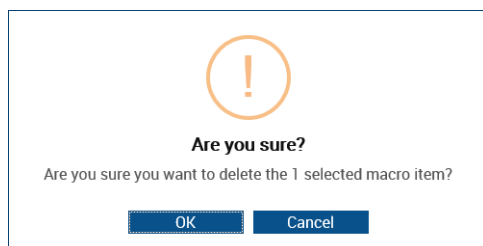

FIG. 67 System Prompt - Verify deleting Macro Item(s)
- The program will prompt you to confirm this action (FIG. 67):